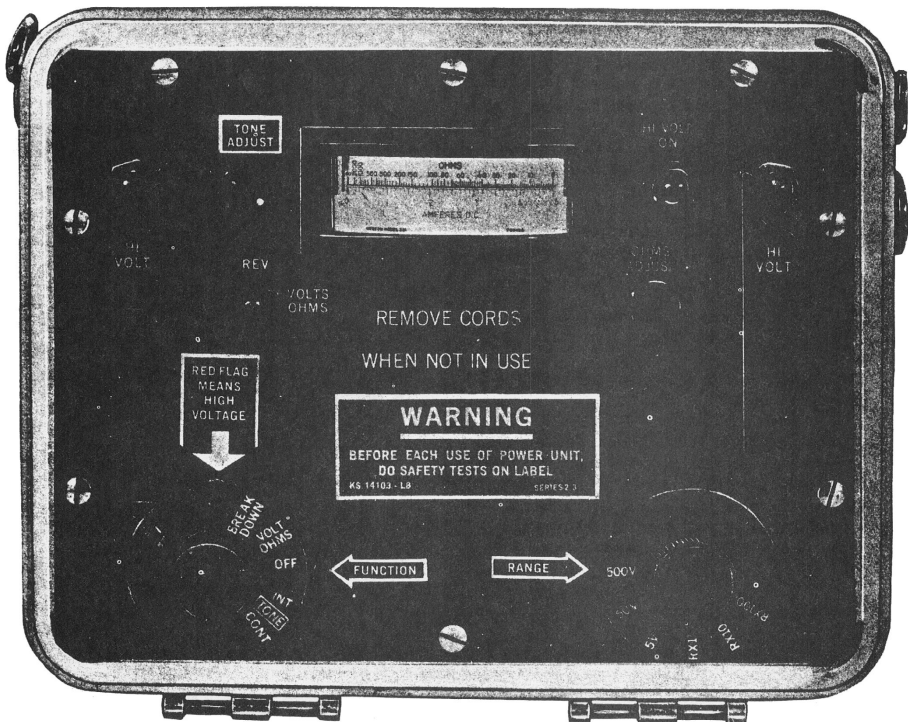

Fig. 3—L8 Control Panel
**3.03 Switch positions and functions: (Fig. 3)**
**7.03** Tests for opens and connected stations can be made by operating the VOLT-OHM REV pushbutton switch (Fig. 3) and observing the meter deflection with the switches in the following positions.